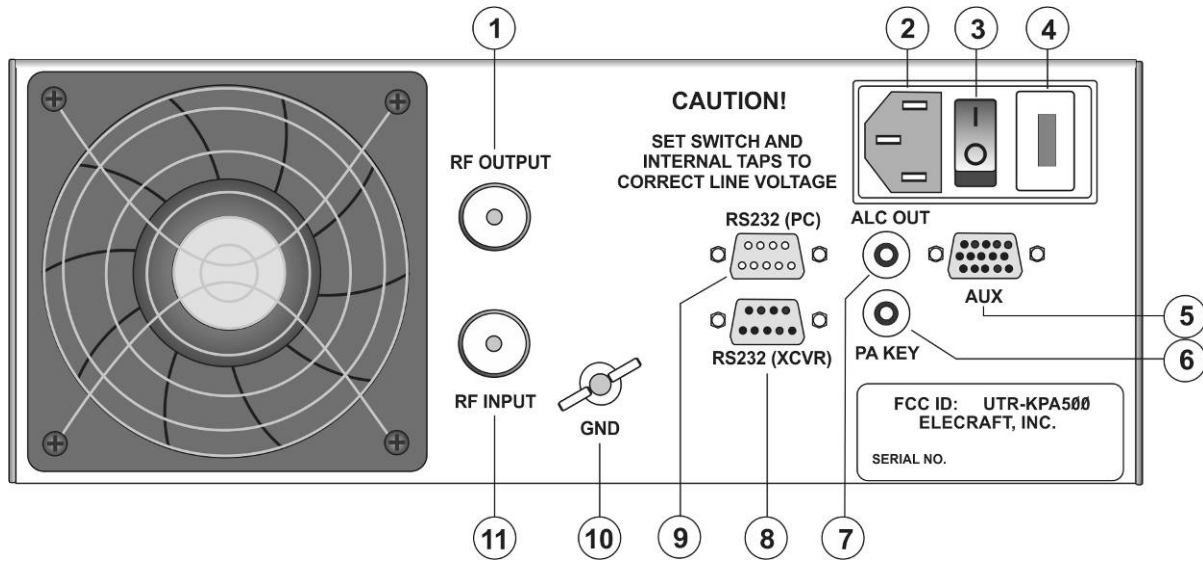

Figure 1. KPA 500 Rear Panel
The KPA500 rear panel is shown in Figure 1. The connectors and controls are described following the figure.
⚠ Always turn the amplifier off using the rear panel switch (③ in Figure 1) before attaching or removing cables.
1. When the KPA500 is turned off using the front-panel switch, part of the control circuitry remains on as long as mains power is applied and the rear panel power switch is on. (The rear panel switch is ③ in Figure 1 on page 4). Keeping the control circuitry energized allows the KPA500 to be turned on and off remotely as well as from the front-panel switch. Although the amount of power consumed in this state is low, you may notice the left rear corner of the cabinet is slightly warm. If you do not need to control the KPA500 remotely and would prefer to save the small amount of power required to power the control circuitry, either switch the rear panel power switch off or provide an external mains power switch. Be sure to switch the KPA500 off using the front panel switch first and wait for the fans to stop before switching it off at the rear panel or with an external switch.
1. Ensure a suitable 50 ohm load is attached to the RF OUTPUT connector on the rear panel (Figure 1, ①). A dummy load is recommended for initial tests.
2. Enable the power supply by pressing the rear panel rocker switch (Figure 1, ③) to the On (I) position.